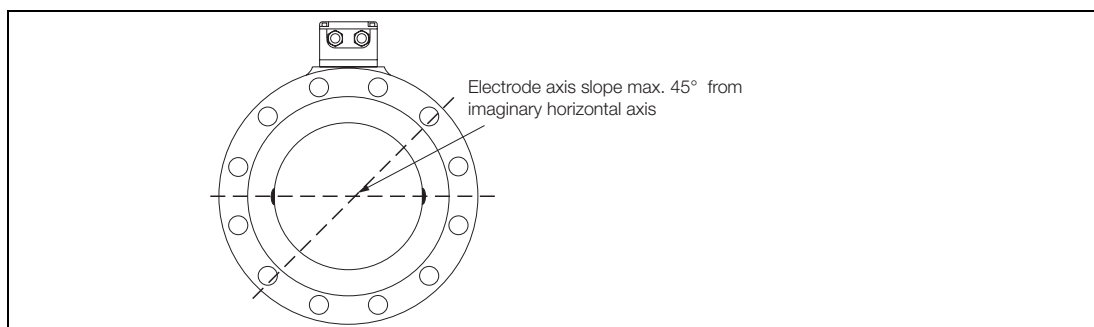

Fig. 8:
- The electrode axis should be horizontal if possible or max. 45° (Fig. 8)